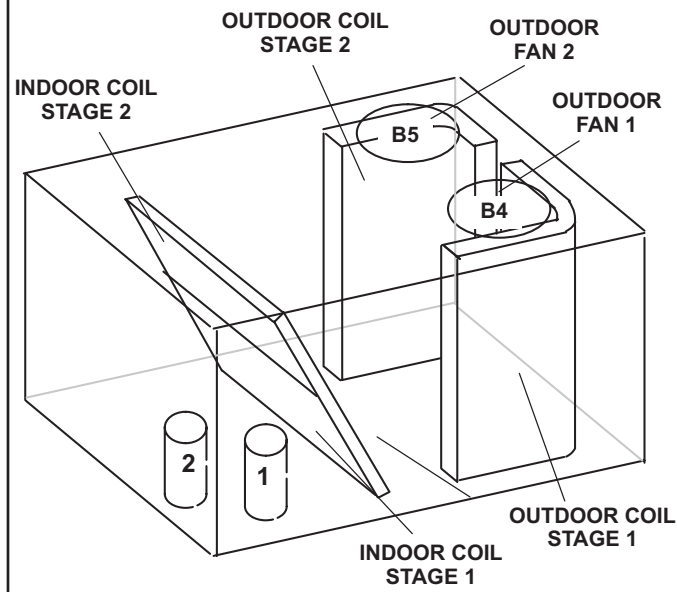
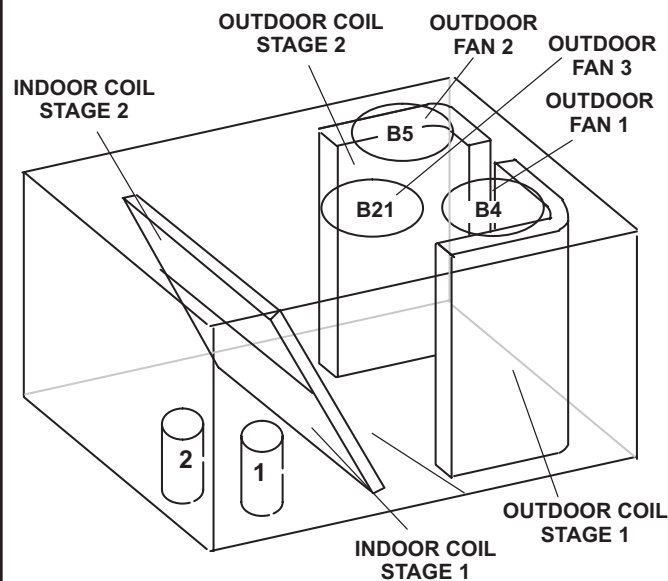

FIGURE 19
FIGURE 20
- 3 - Units have two refrigerant circuits. See FIGURE 19 or FIGURE 20.